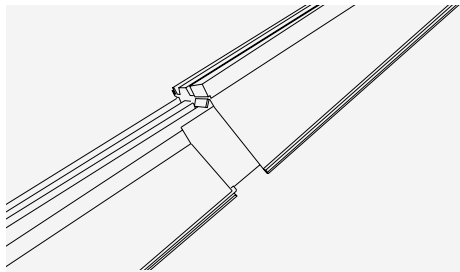

Fig. 8 – Slide verge units upwards
- 9 Successive dry verge units are interlocked together by sliding upwards against unit below, ensuring that lugs on outside of verge unit fit into internal locating slots (Fig. 8).